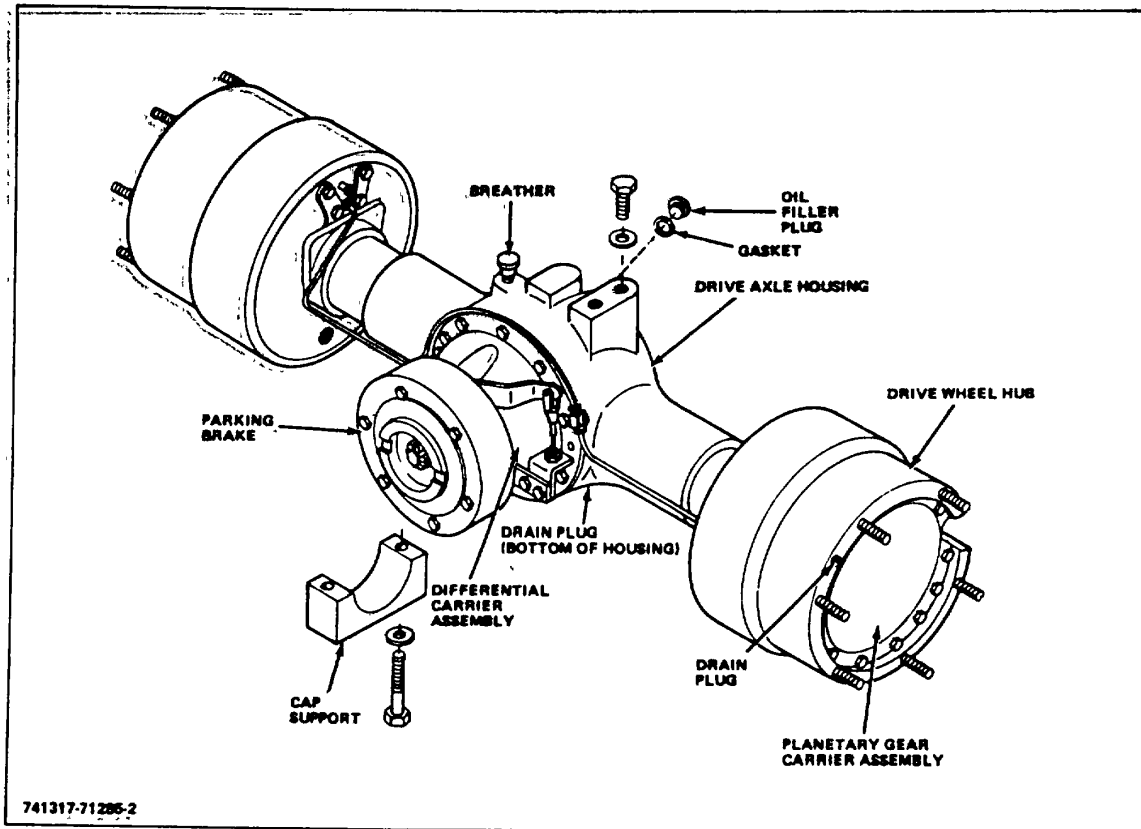

Figure 1-1. A-C Planetary Drive Axle Unit
The A-C planetary drive axle assembly (Fig 1-1 or 1-2) consists of the axle housing, differential carrier assembly, the axle shafts, planetary gear carriers and ring hubs. The service brakes are located within each of the two drive wheel hubs. The parking brake is located on the differential carrier assembly.
After each 100 hours of operation, check the oil level in the drive axle housing. Remove the oil filler plug (Fig 1-1 or 1-2) from the front of the drive axle housing. With the lift truck in a level position, the oil level should be up to the bottom of the opening. If necessary, add specified lubricant through the level opening but do not overfill. Then install oil filler plug securely.
After each 100 hours of operation, check differential breather to make certain it is clean and open. Remove breather (Fig 1-1 or 1-2) from the top of the drive axle housing. Wash it in a suitable cleaning solvent and dry it with clean compressed air to make certain it is not clogged. Install breather and tighten securely.
1. Rotate each drive wheel so drain plugs in drive wheel hubs are at the lowest position. Remove oil filler plug from front of drive axle housing. Remove drain plugs (Fig 1-1 or 1-2) from drive wheel hubs and drain plug from bottom of drive axle housing; allow oil to drain.